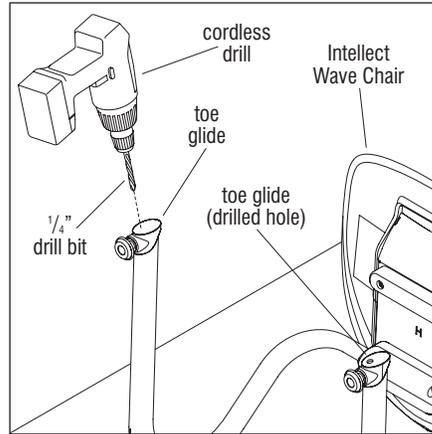

Figure 2
2. Use a 1/4" drill bit in a drill driver and bore a hole in the front, lower portion of the glide as illustrated in figure 2. Drill from the center, but aim the drill bit slightly off to the side to avoid the screw in the middle. Drill out enough material to disrupt the inside structure of the toe glide (Figure 2 & 3).